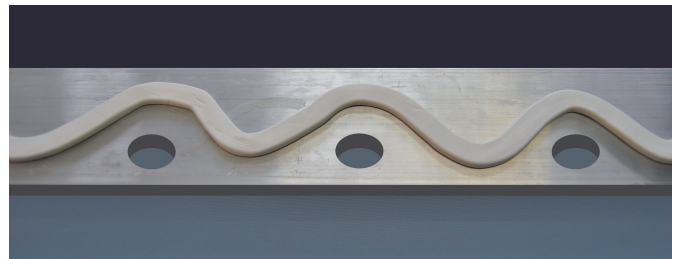
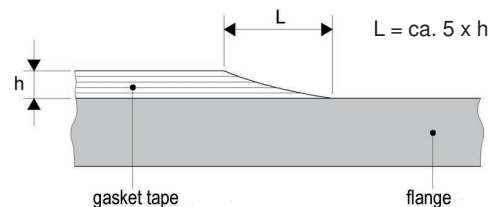
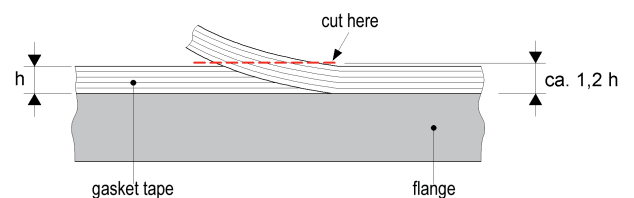

Figure 2
Figure 3.1.
Figure 3.2.
- For gasket tapes with a cross section larger or equal 17x6 mm, cut the ends as shown in Figure 3.1. and Figure 3.2.
- For stress-sensitive flanges mount tape as shown in Figure 2 and join the endings as shown in Figure 3.1. and 3.2.